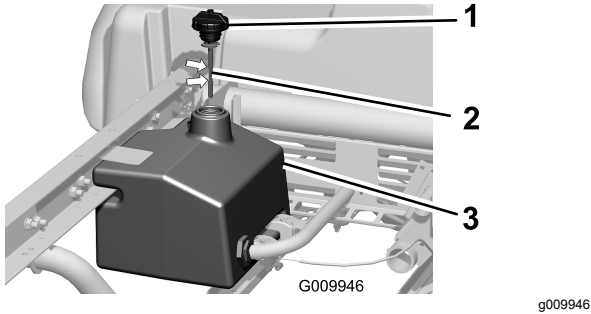

Figure 21
1. Clean the area around the filler neck and the cap of the hydraulic tank (Figure 21).